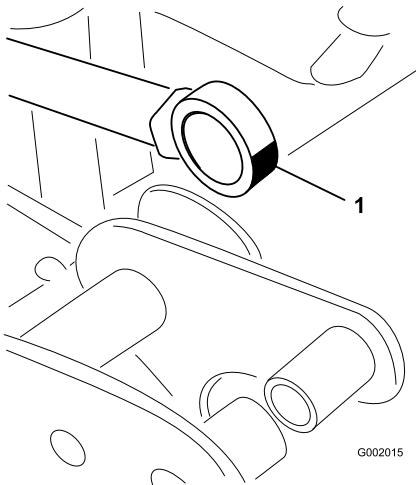

Figure 38
5. Manipulate the actuator rod bearing end and apply grease into the bearing (Figure 38). Wipe off excess grease.